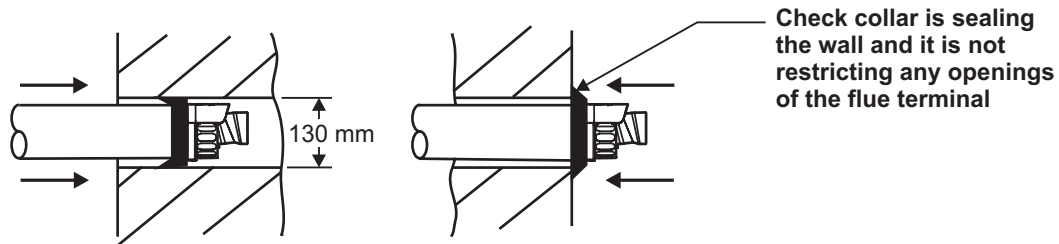

Fig. 17 - Fitting the flue from inside
- Determine the overall length (L) of flue required, (see Fig. 17) as follows:-